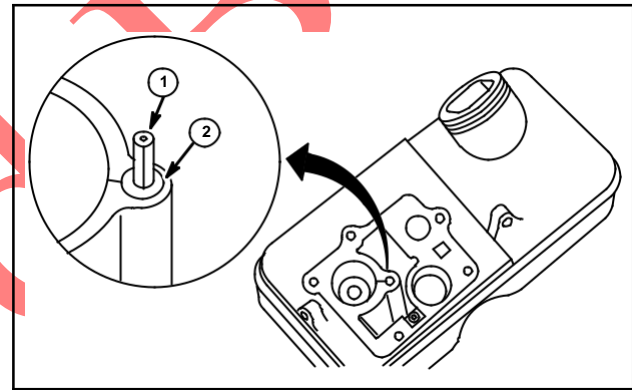

Fig. 33
Repair kit #391413 may be used to repair Pulsa-Jet fuel tanks which are not flat. Install roll pin (1) and Teflon washer (2) as shown in Fig. 33.